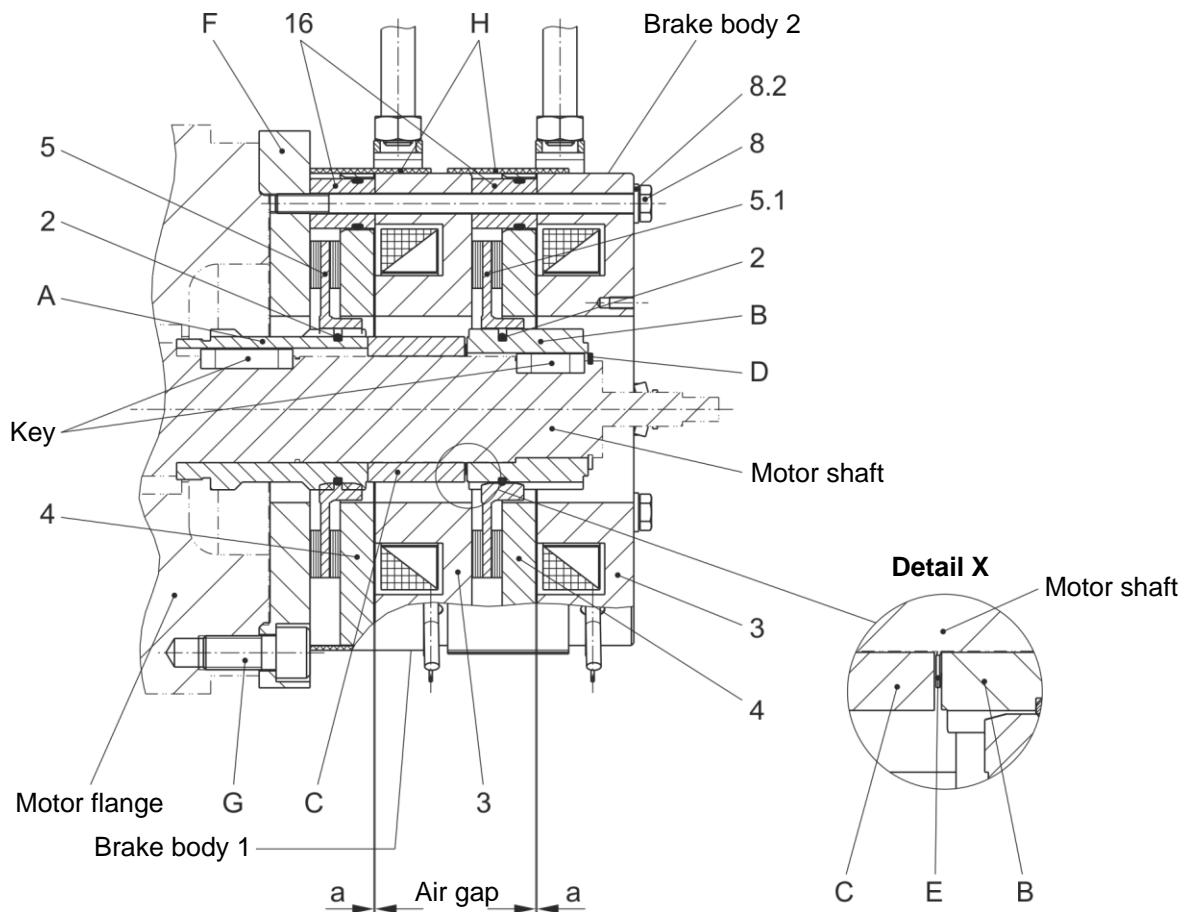

Fig. 1
Deviating Installation (Figs. 1 and 2)
1. Remove the flange plate (F) from the brake.
3. Mount the flange plate (F), with recess/inner centring first, onto the motor flange using 3 cap screws (G). Please observe the **tightening torque of 130 Nm**.
4. Push the hub (A) with the inserted O-ring (Item 2 / O-ring must be greased lightly) correctly positioned, with the short tooth length first, onto the shaft up to contact shaft shoulder.
5. Push rotor 1 (5) by hand over the O-ring (2) onto the hub (A) using light pressure (the rotor collar faces away from the flange plate). Please make sure that the tooth moves easily. Do not damage the O-ring.
6. Push the distance sleeve (C) onto the shaft.
7. Push the ball bearing compensation disk (E), see Fig. 1 / detail X, onto the shaft.
9. Push the hub (B) with the inserted O-ring (Item 2 / O-ring must be greased lightly) correctly positioned, with recess Ø 44 first, onto the shaft up to contact ball bearing compensation disk (E).
10. Mount the locking ring (D).
11. Push brake body 1 over the hub (1) and the rotor collar of rotor 1 (5). The fixing holes must align with the threaded holes in the flange plate (F).
12. Push rotor 2 (5.1) by hand over the O-ring (2) onto the hub (B) using light pressure, so that the friction lining of rotor 2 (5.1) lies against brake body 1 (the rotor collar faces away from the flange plate).